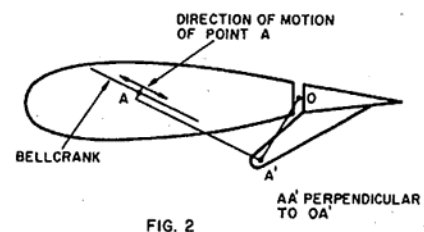

FIG. 2
We received a letter recently from Howard Huebl, up Minnesota way. Howard pointed out a goof which we made in our discussion of differential throw in the December issue of this magazine (?). The mistake occurred in our figures 2 and 3 of that issue. In those figures we indicated that the described setups gave no differential. As Howard pointed out, "it ain't so." To see this, let's consider the following figure.
In this figure, consider the setup A-A'-O to be the neutral position, while the positions B-B'-O and C-C'-O are the setups with full right and left aileron servo deflection. Note that in this setup, the bellcrank motion is perpendicular to O-A', the condition we indicated as sufficient to insure no differential. Fig. 1 shows that, with equal bellcrank motion to the right (to point B), and to the left (point C) from the neutral position (A), we get more upward aileron deflection (B-B') than downward deflection (C-C'). When Howard pointed this out to us, we were forced to reconsider our general rule for insuring that we were obtaining no differential when it wasn't desired. Properly stated, the rule should be as follows: To insure no differential throw, the line joining the connection point at the bellcrank (point A in Fig. 2) to the connection point at the control horn (point A') must be perpendicular to the line connecting point A' to the hinge point (point O). Furthermore, the direction of motion of